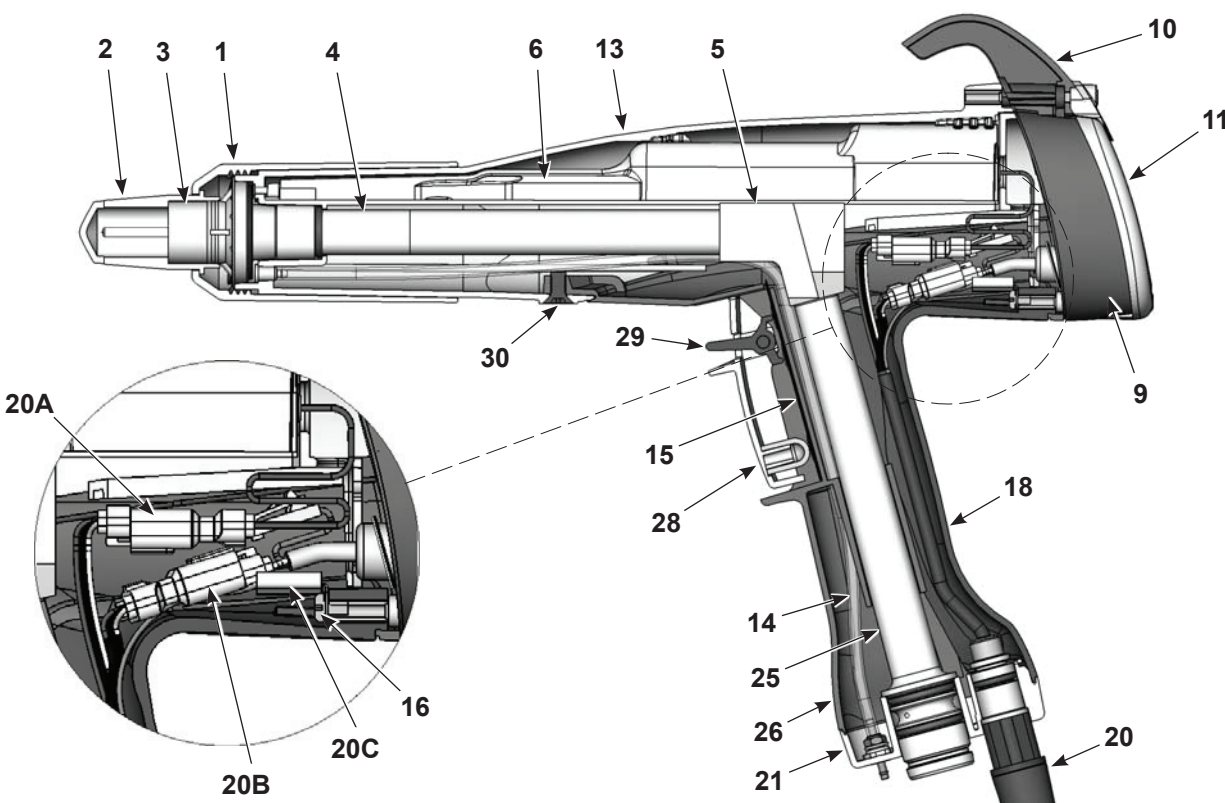
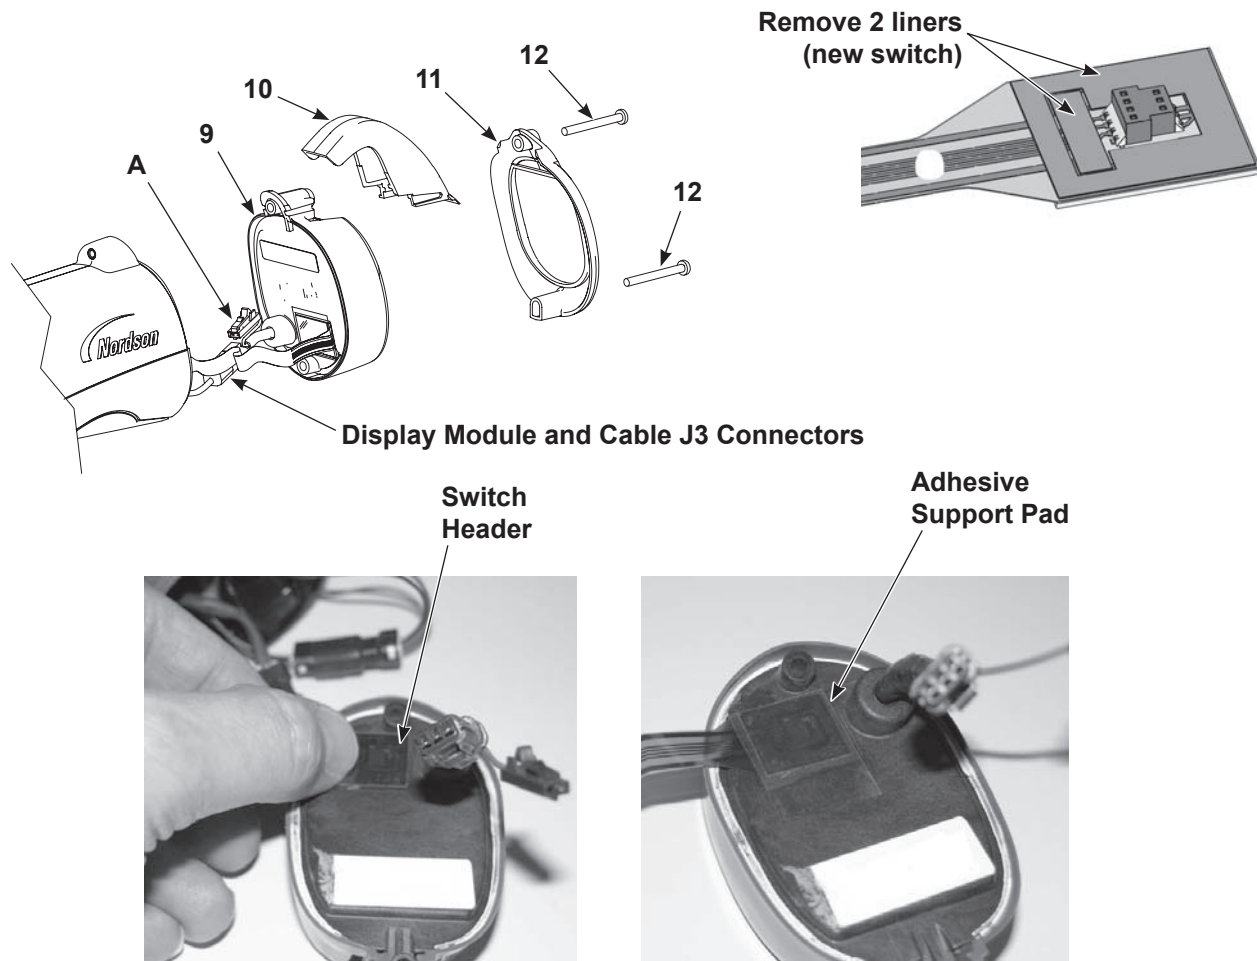

Figure 6-1 Section View of Spray Gun (item numbers in this section match item numbers in parts list)
Figure 6-2 Display Module Replacement
1. See Figure 6-1 and Figure 6-2. Unscrew the top and bottom screws (12) holding the bezel (11), hook (10) and display module (9) onto the gun body.
1. On the display module (9), carefully clean the trigger switch header mounting surface and surrounding area with isopropyl alcohol. Allow the surface to dry completely before proceeding.
2. If you are installing a new trigger switch, remove the two liners from the connector side of the trigger switch header as shown in Figure 6-2.
5. Connect the J3 display module and cable connector together. The ground wire connector (A) is not used for this version of the gun.
7. Slide the hook (10) onto the display module, then install the bezel (11).
8. Install and tighten the screws (12).
2. See Figure 6-1. Unscrew the nozzle nut and remove the nozzle and electrode assembly from the spray gun.
4. See Figure 6-2. Install the display module as described in *Display Module Installation* in this section.
5. Install the electrode assembly (3) into the the end of the outlet tube at the front of the gun body. Make sure the wire electrode is not bent or broken.
6. Install the nozzle (2) on the electrode assembly, making sure the keys in the electrode assembly slide into the slots on the nozzle.
7. Install the nozzle nut (1) over the nozzle and rotate clockwise to secure.